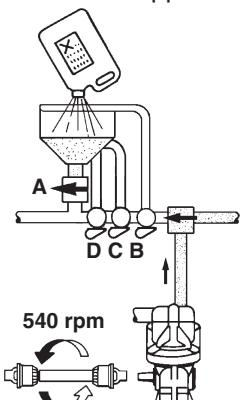

Fig 24
- 3 Turn the green pressure valve towards 'To QUIKmix Filler'. Close remaining valves by turning to 'O'. Check that the bottom valve of the filler (**A** Fig 24 & **A** Fig 22) is closed.